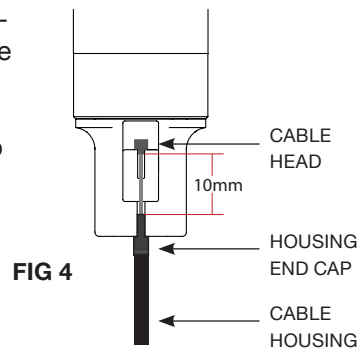

FIG 4
7. Install end cap to cable housing at seat post end. Secure the inner cable head into the actuator coupler and insert cable into seat post end of housing (with end cap installed). (FIG 4)